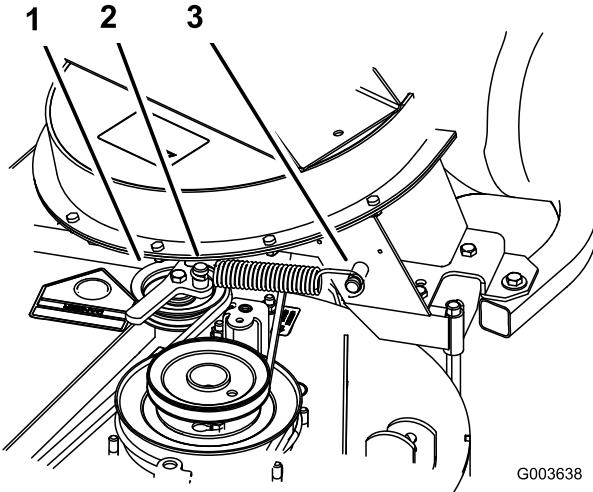

Figure 19
4. Install the spring as shown in Figure 19.